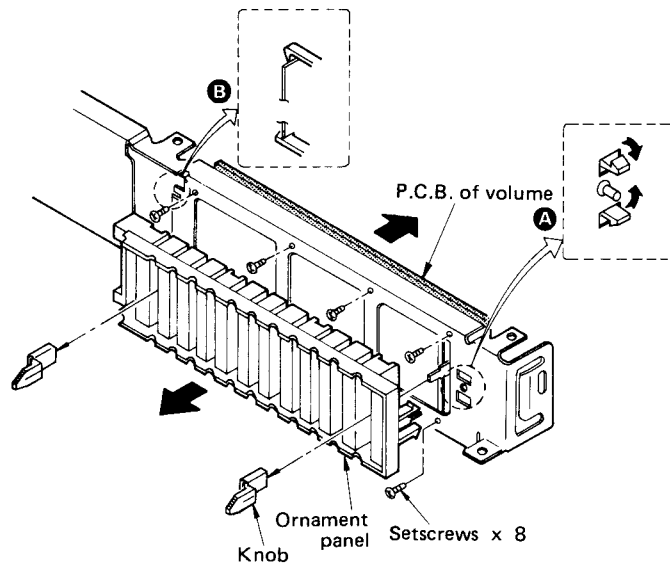

Fig. 5
6. Remove the ornament panel by pressing the right and left claws (A & B) from the inside of the chassis as in Fig. 5. (There are 2 ornament panel. Remove another panel in the same manner.)